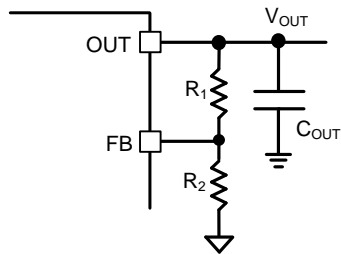

Fig.7 V_{OUT} Programming
The SY9329C provides a function for output current limit by sensing the voltage drop between the OUT pin and the ISEN pin (as shown in fig.7). Once the differential voltage on R_{SENSE} exceeds the voltage threshold, the internal current control loop will regulate the output current by decreasing duty cycle until UVP or OTP is triggered. Noticing that the effects of R_{PIN} and R_{WIRE} cannot be ignored, the actual limit current I_{LIMIT} can be calculated as given in Equation (2):